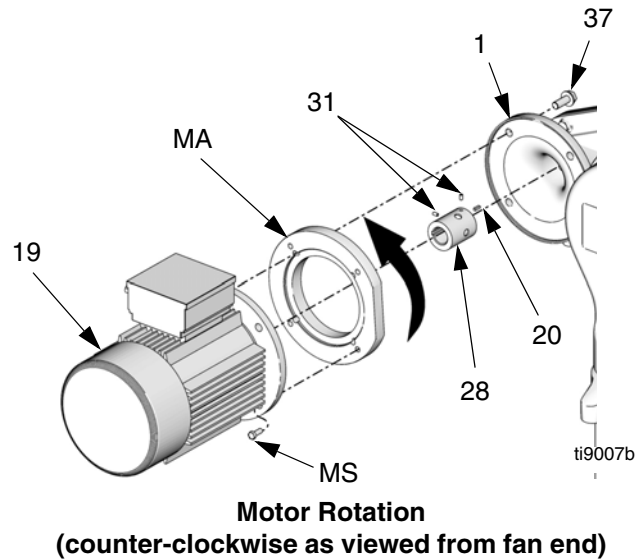
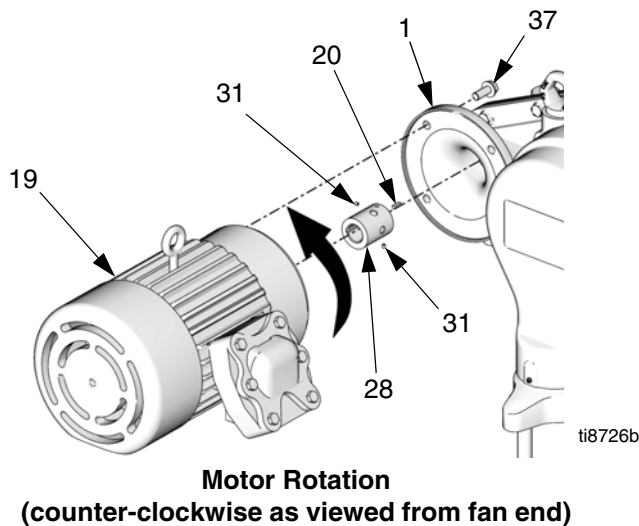

FIG. 21. IEC 112M/B5 and 100L/B5 Frame Electric Motors
FIG. 20. All NEMA 182/184 TC Frame Electric Motors
NOTE: See FIG. 20 for all NEMA 182/184 TC Frame electric motors. See FIG. 21 for IEC 112M/B5 and 100L/B5 Frame electric motors.
NOTE: When installing an IEC 112M/B5 or 100L/B5 Frame electric motor, ensure that the motor adapter (MA) and screws (MS) are in place before mounting the motor on the gear reducer. See FIG. 21.